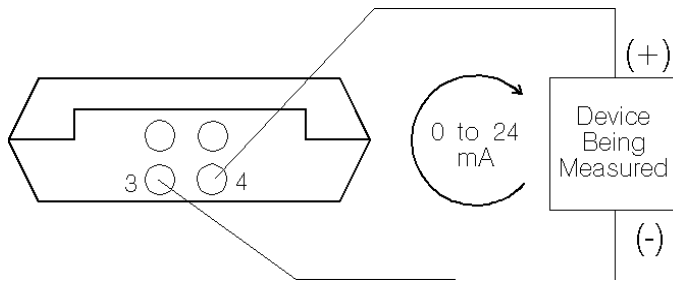

Figure 3 - Current Loop Readings
- When reading a current loop, the PCL431 can measure over a range of 0-24mA. Connections are shown in Figure 3.